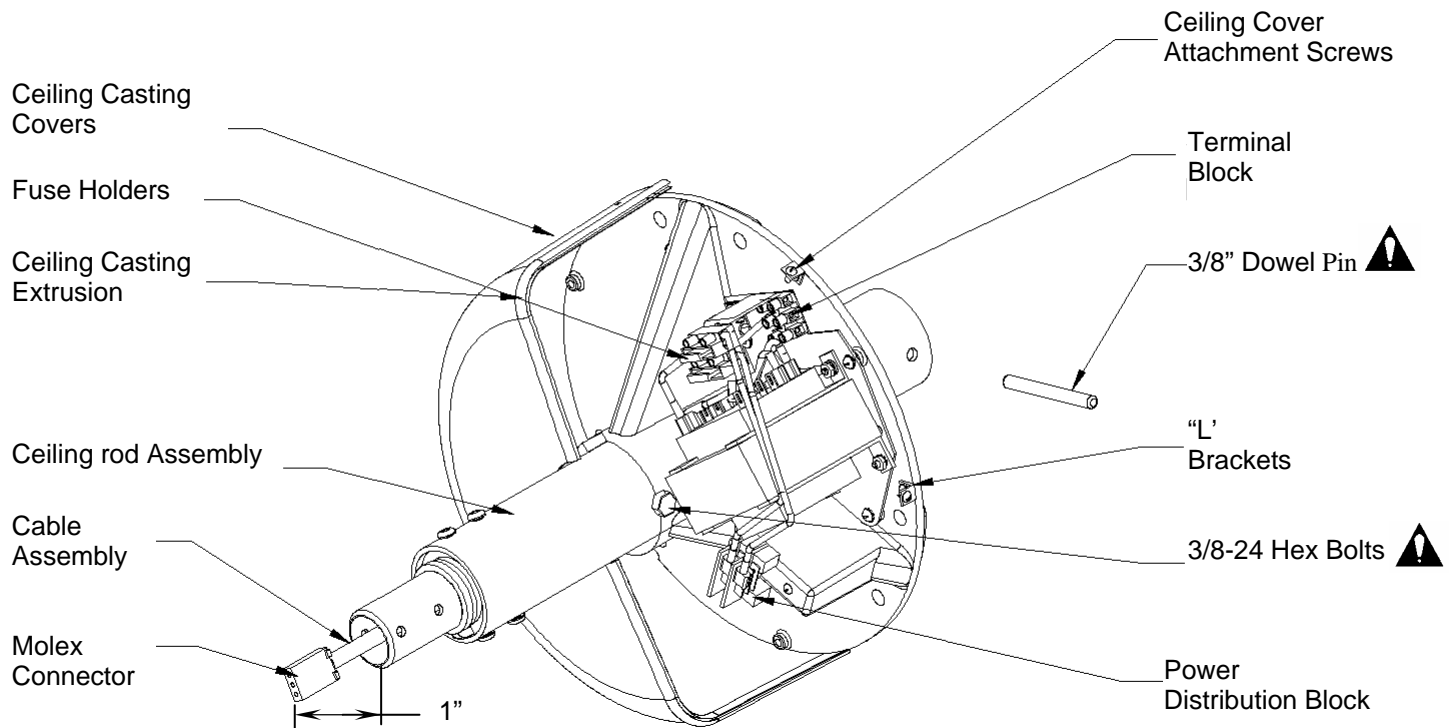

Figure 7-Solo Ceiling Mount (Traditional)
- With the ceiling casting laying on the floor or on a bench, slide the ceiling rod into the hole in the ceiling casting in the direction shown in Figure 7. Push the rod through the casting exposing the hole at the end of the rod.